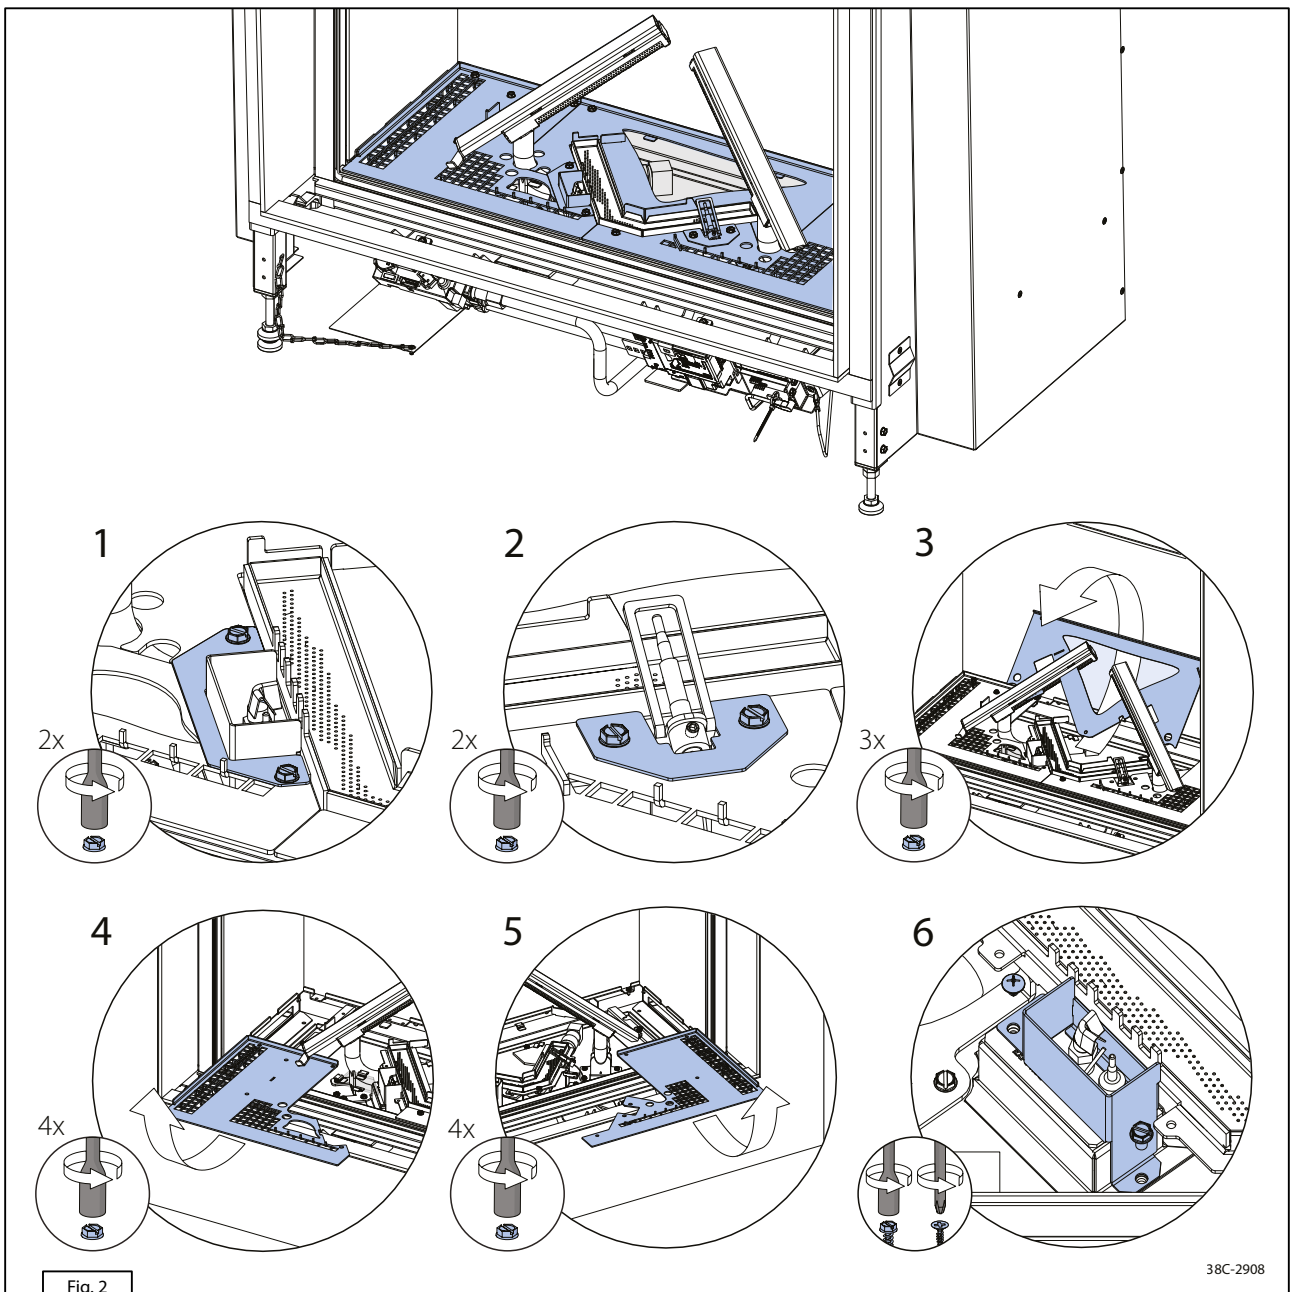

Fig. 2
When dismantling the burner surface, proceed as follows (see Fig. 2):
- Adjust the adjustment ring of the left upright burner using spacer 8.5 (F) using the allen key provided in the conversion kit (Step 1).
- Adjust the adjustment ring of the main burner using spacer 10.5 (E) using the allen key provided in the conversion kit (Step 2).
- Adjust the adjustment ring of the right upright burner using spacer 11 (G) using the allen key provided in the conversion kit (Step 3).
- Carry out steps 1 to 6, Section 1.2 (Fig. 2), in reverse order to re-assemble the appliance.